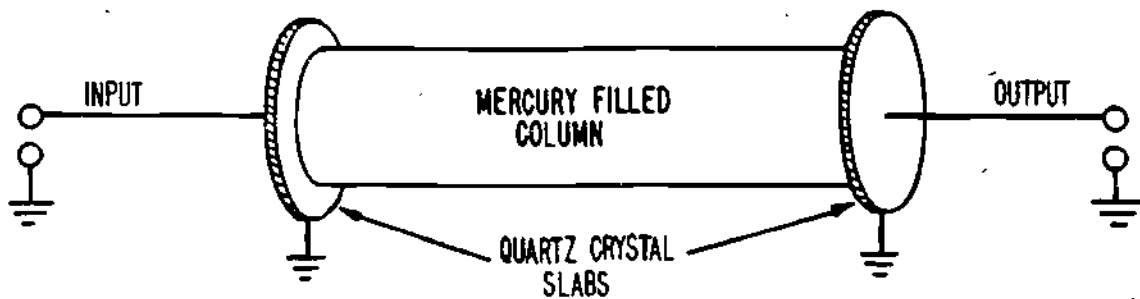

Figure 4
5. One type of electromechanical delay line is made up of a column of mercury with a slab of quartz crystal at each end as shown in Figure 4.